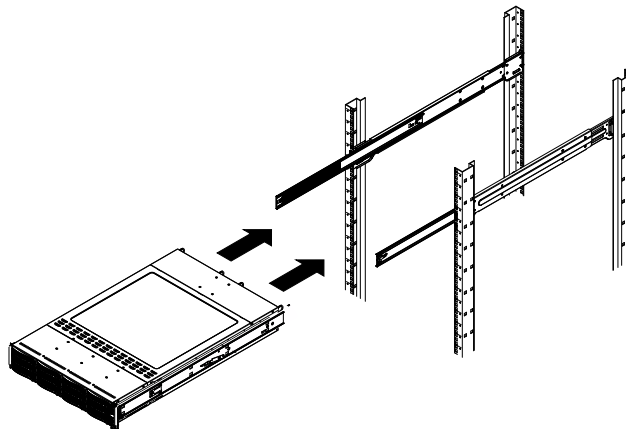

Figure 2-4. Installing the Server into a Rack
2. Slide the chassis rails into the rack rails, keeping the pressure even on both sides (you may have to press the locking tabs when inserting). See Figure 2-4.